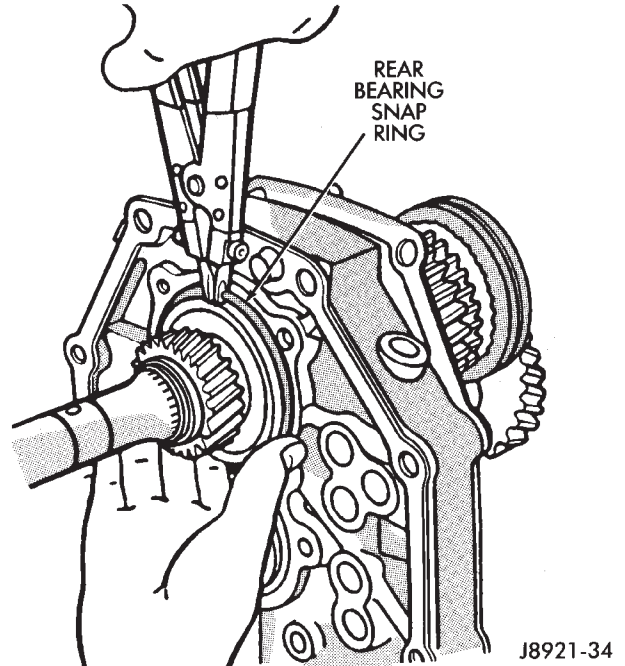

Fig. 26 Removing Rear Bearing Snap Ring
(8) Remove rear bearing snap ring (Fig. 26).